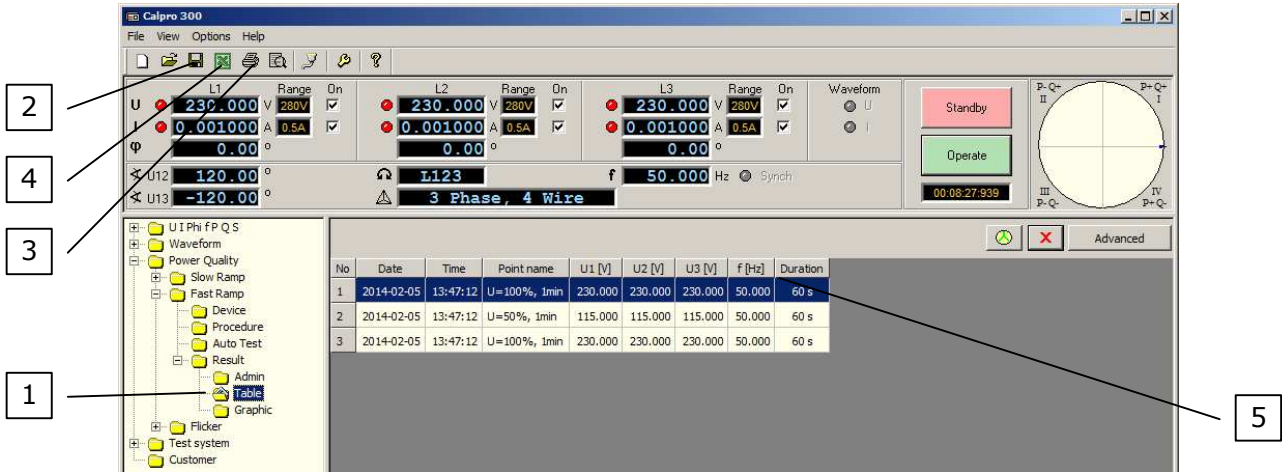
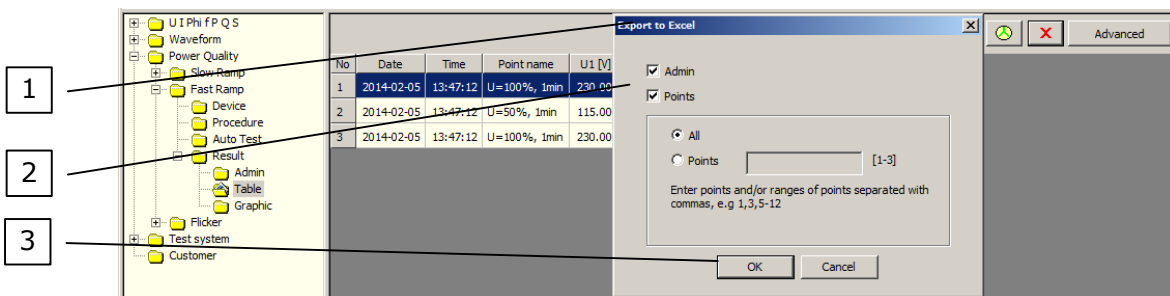
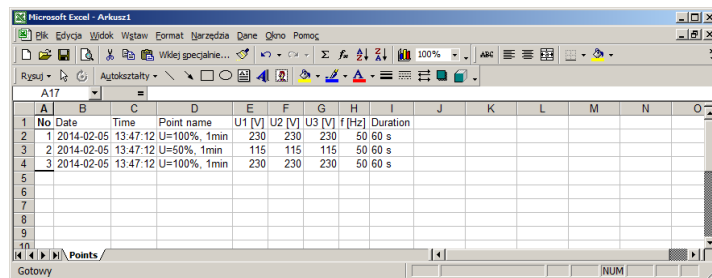

Fig.3.7. Table function with parameters of measurement points
Fig.3.8. Table function with Export to Excel window
Fig.3.9. MS Excel program with exported parameters of measurement points
To view a table with parameters of measurement points (Fig.3.7) the user have to press the *Table* of the *Power Quality / Fast Ramp / Result* function (pos.1). After that the user can save to the file (pos.2), print (pos.3) or export to the *MS Excel* test parameters (pos.4).
To export data to *MS Excel* program the user have to press the *Export to Excel* button (pos.4 Fig.3.7). After that appear *Export to Excel* window (pos.1 Fig.3.8) with fields to set the parameters of a data to export (pos.2 Fig.3.8). When the user confirm changes by the *OK* button (pos.3 Fig.3.8) then a *MS Excel* program run with exported test parameters (Fig.3.9).